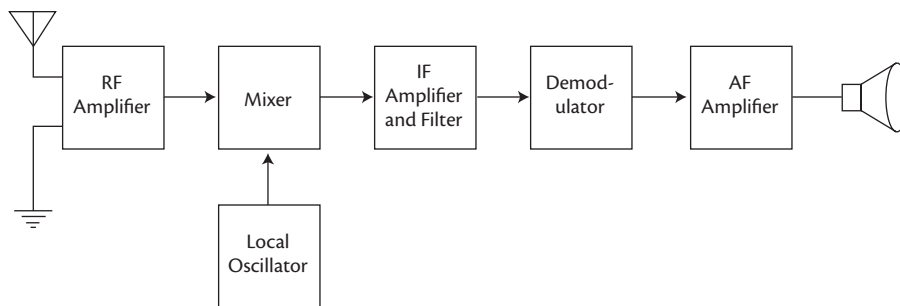

FIGURE 8-10 Superhet block diagram.
Until recently, virtually all radio receivers, including those in TVs, were of the same basic superheterodyne design (Figure 8-10). A radio-frequency (RF) amplifier increased the signals coming from the antenna. Then, those signals were mixed with a *local oscillator* that converted them to a different frequency from the one at which they were received so that they could be amplified without interfering with the signal coming in. As you tuned the radio, the local oscillator would track the tuned frequency, keeping the frequency difference between them constant. After the mixer, this resulted in a copy of the incoming signal at whatever that difference frequency was. The new, unvarying frequency, called the *intermediate frequency* (IF), was passed through a series of tuned amplifiers to make the signals bigger while rejecting those on nearby frequencies—a phenomenon known as *selectivity*—and finally *demodulated* to extract the audio, data or video originally encoded